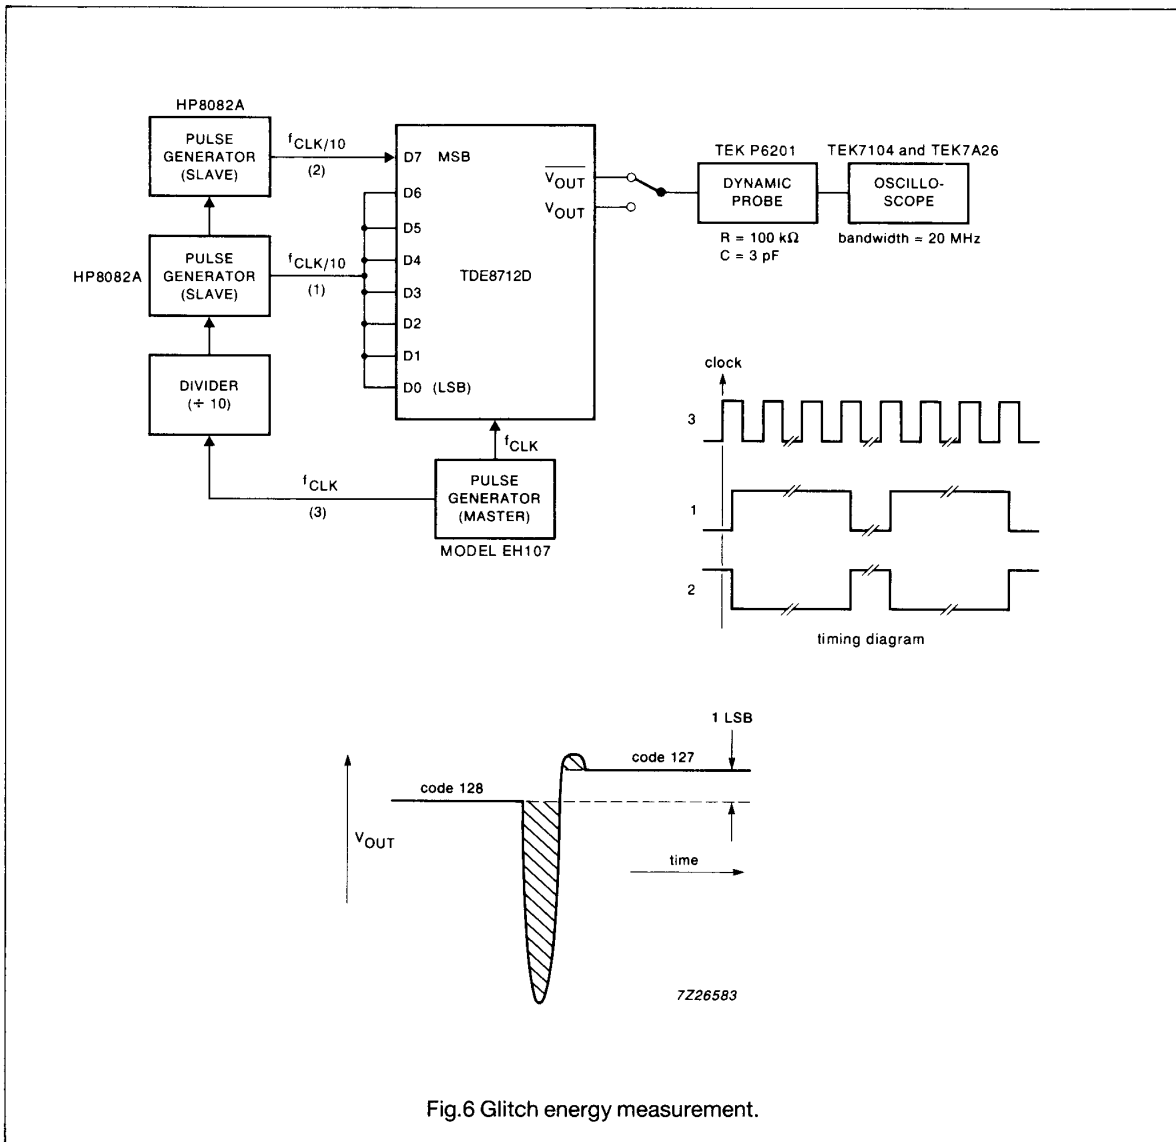

Fig.6 Glitch energy measurement.
Output transients (glitches; $f_{CLK} = 50 \text{ MHz}$ ; note 6; see Fig.6)
6. The definition of glitch energy and the measurement set-up are shown in Fig.6. The glitch energy is measured at the input transition between code 127 to 128 and on the falling-edge of the clock.
Note to Fig.6